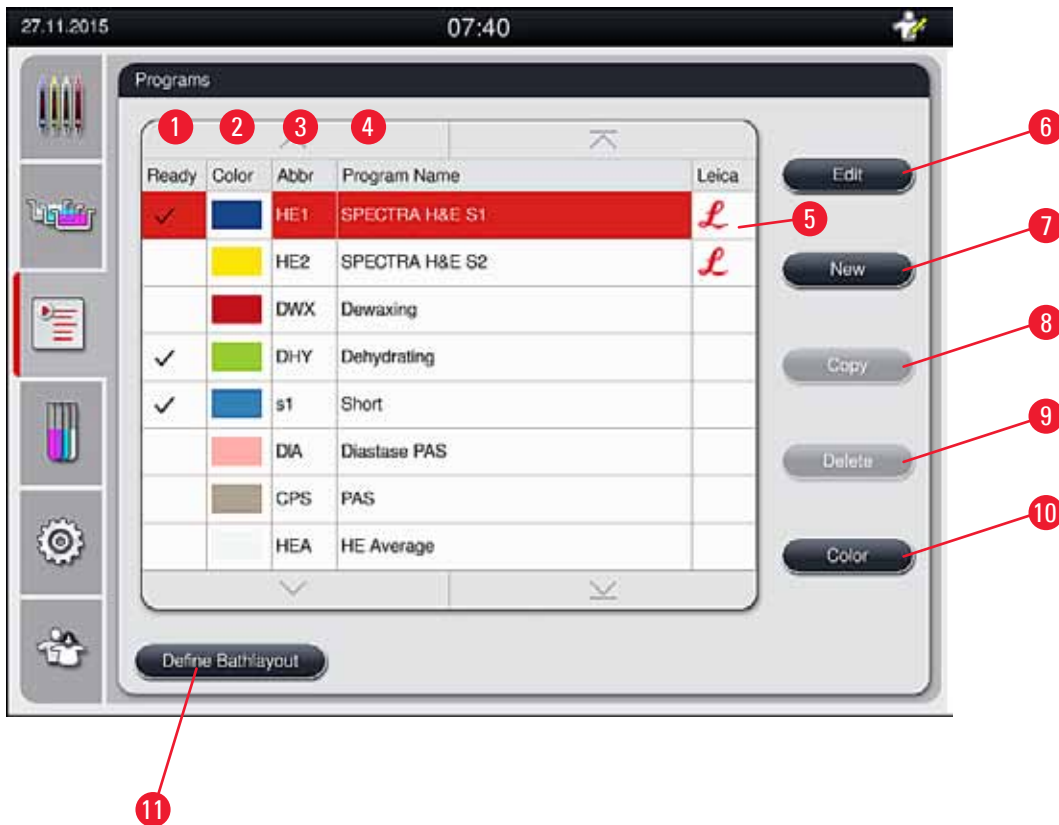

Fig. 41
- To assign a rack handle color to a program, tap the corresponding program in the program list (→ "Fig. 41") to select it.